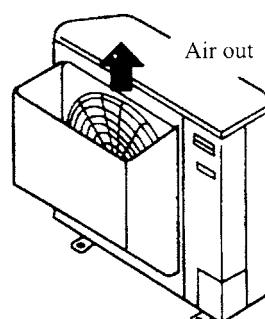

Fig. 95
2. If it is hard to find a space of 50cm min. between the air outlet and block near it, or if the air outlet is facing the road and may blow hot air to passers-by, please install an air guide to let the air comes out upwards (see Fig. 95).